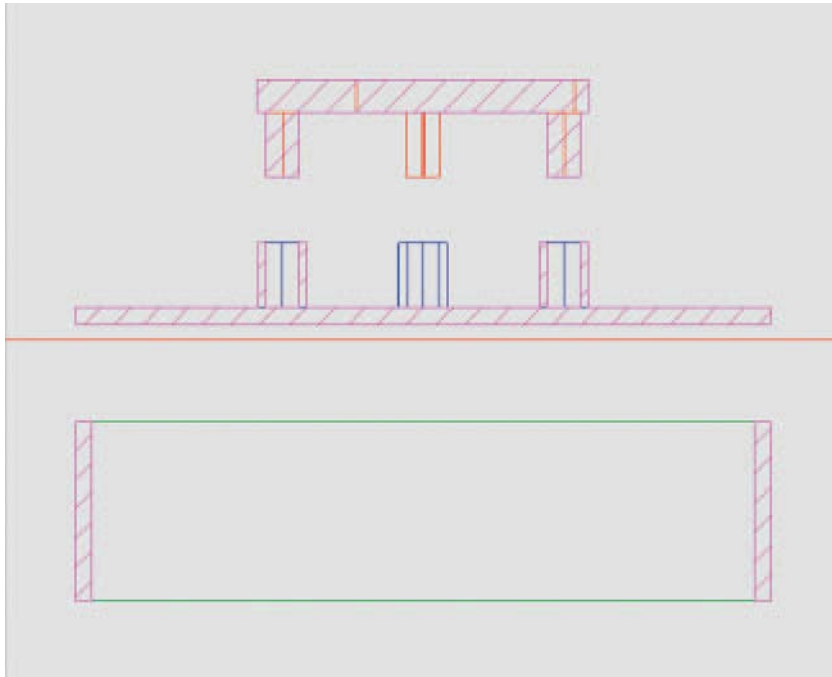

Fig. 14.30 Example – Section Plane
- The result is shown in Fig. 14.30.